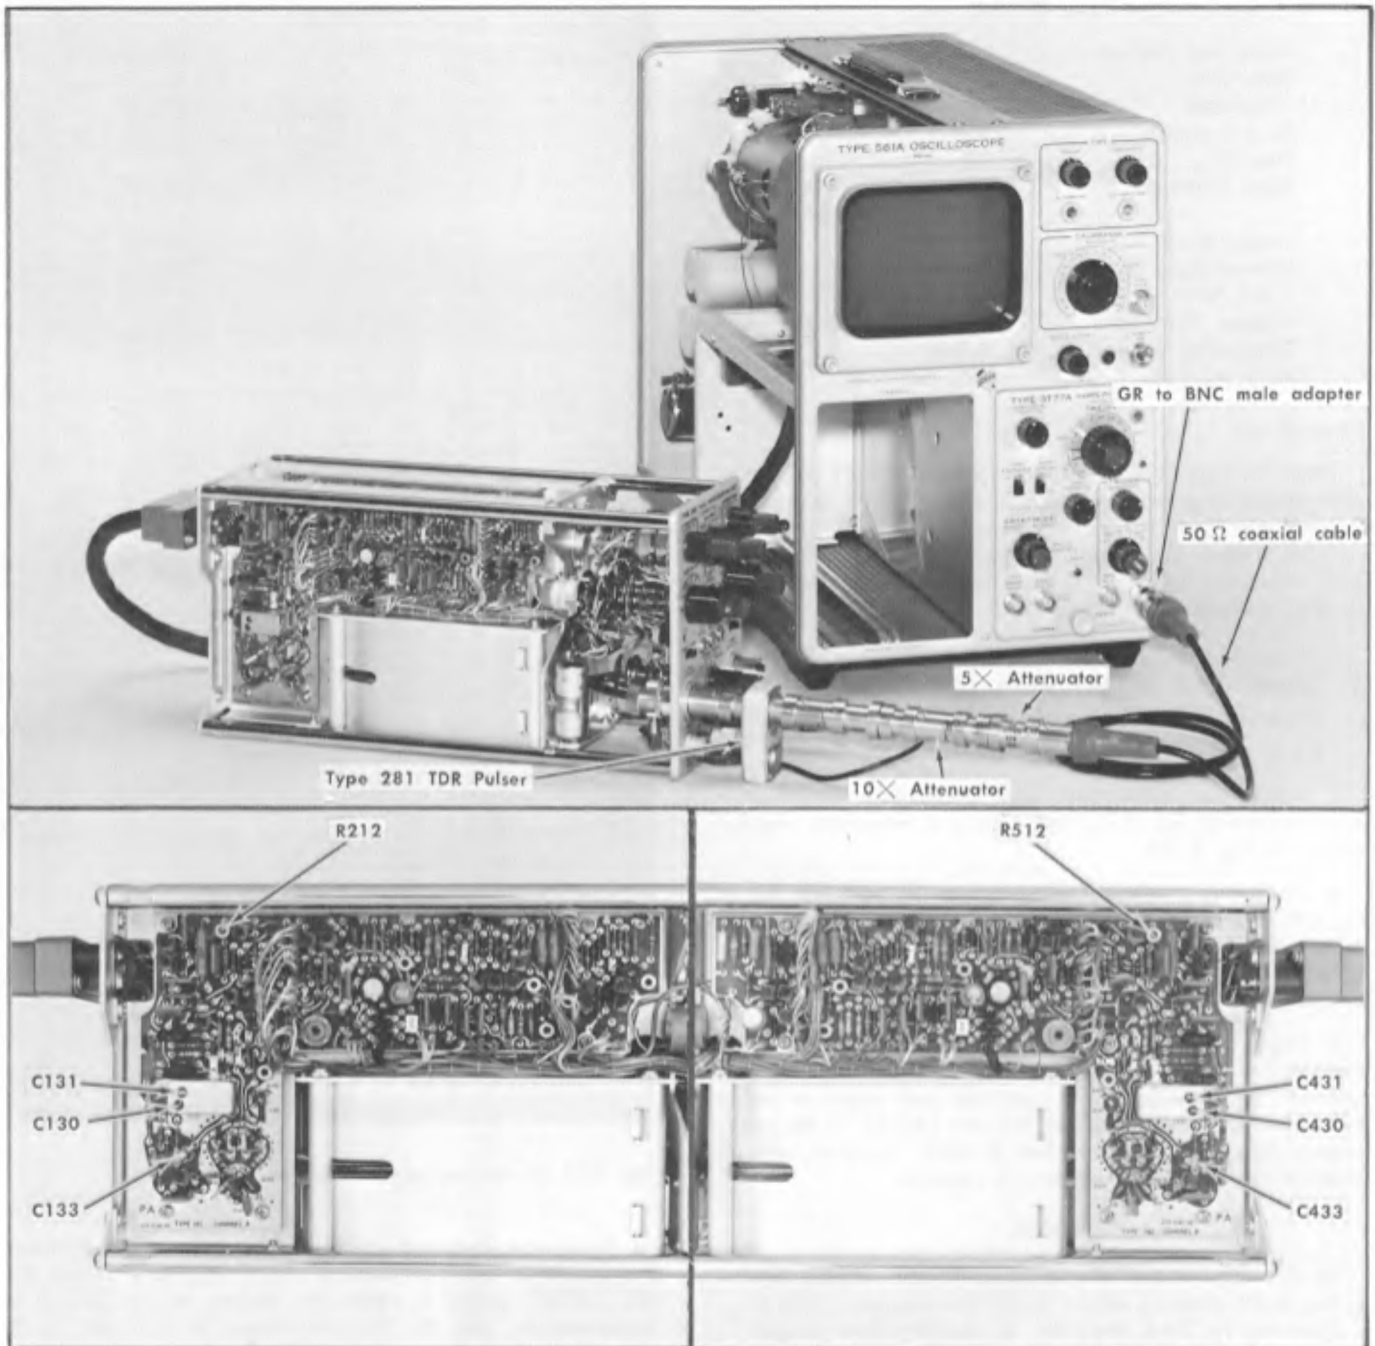

Fig. 8-12. Test setup and Blow-By adjustment locations, Step 8.
Install the Type 281 TDR Pulser on the A INPUT connector and connect its power cord to one of the PROBE connectors. Connect the Type 281 other connector to the Timing Unit external trigger input connector with a  $10\times$  and a  $5\times$   $50\ \Omega$  attenuator in series, a  $50\ \Omega$  coaxial cable and a GR to BNC adapter. See Fig. 8-12.
a. Make the connections and preliminary adjustments listed following Fig. 8-12, and obtain a waveform display similar to Fig. 8-13A.
control, R212 (or R512 in Channel B) shown in Fig. 8-12, until the first dot is level with the rest of the display. Return the Timing Unit Dots Per Division control to 100.